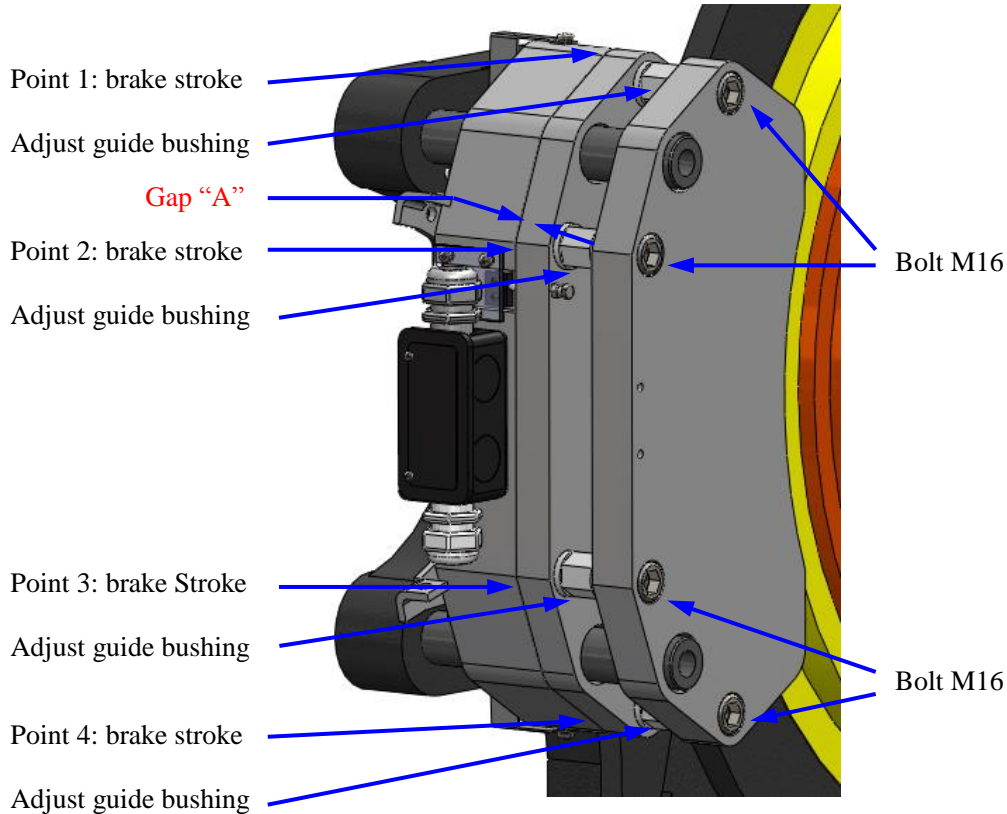

Figure 8: Brake Stroke Adjustment for PZD300 series brake
5. Torque the screw M16 to 110 ft-lbs and reconfirm that the value of gap “A” is good. See Figure 8.
1. Check the gap “A” (brake stroke) at point 1, 2, 3, and 4 with feeler gauge as Figure 8 shows. Max. Gap “A” of brake after wear should be <math><0.7\text{mm}</math> (0.028”), otherwise the gap must be readjusted.